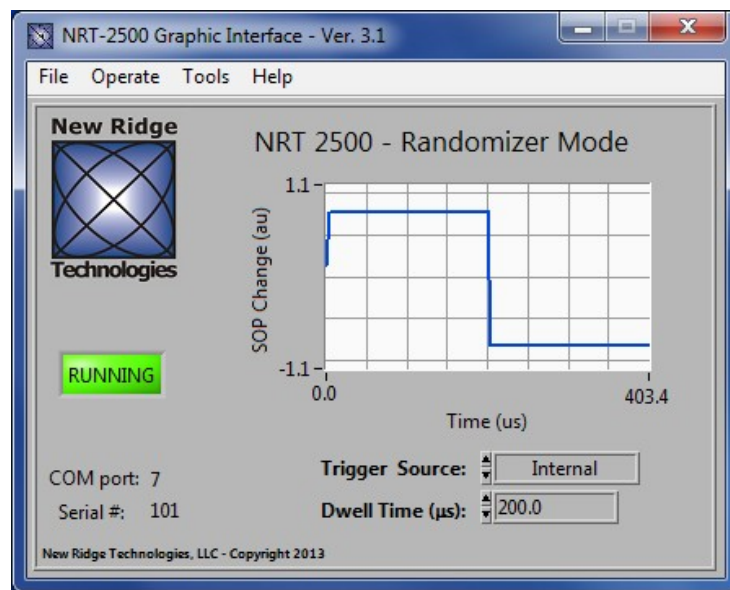

Figure 37: Randomizer - internal trigger mode of operation. The user can change the time between SOP changes (the Dwell time).
1. Internal Trigger – An SOP change will occur automatically every N microseconds, where N is the value set by the *Dwell time*. *Dwell time* can receive values between 200 and 32,000,000 microseconds (see Figure 37).